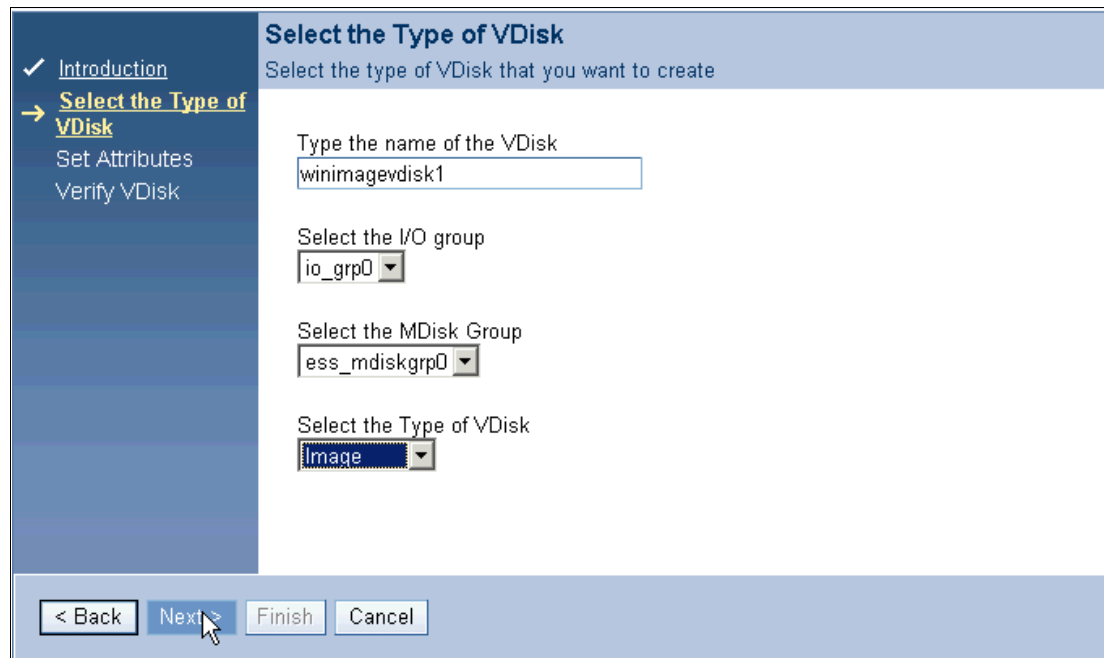

Figure 12-24 Select the Type of vDisk
3. On the Select the Type of vDisk panel (Figure 12-24), type the name of the disk, select the I/O group, select the mDisk group, and select the type of vDisk. Then click **Next**.